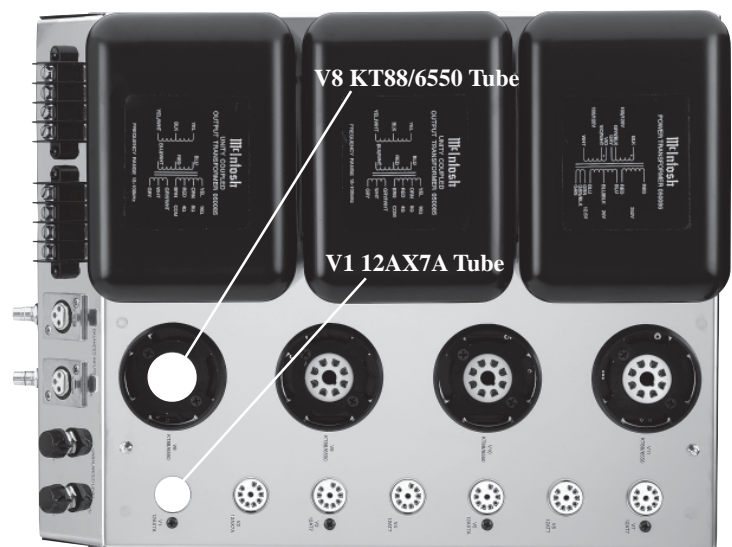

Figure 4
The MC275 Chassis has nomenclature screened on it to specify both the circuit location and Tube Type for each channel. Refer to figure 4.
2. On the top left side of the amplifier, locate the Tube Socket that has the nomenclature V1 12AX7A next to it on the chassis. Refer to figure 4 and 5.
so the wires cannot slip out. Refer to figures 4, 5 & 6.